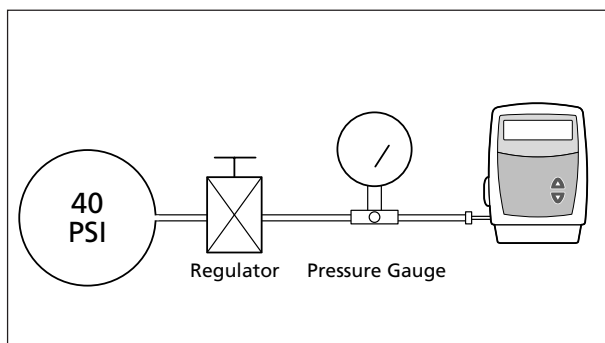

Figure 11. Occlusion test set-up.
3. Assemble the apparatus as shown in Figure 11.